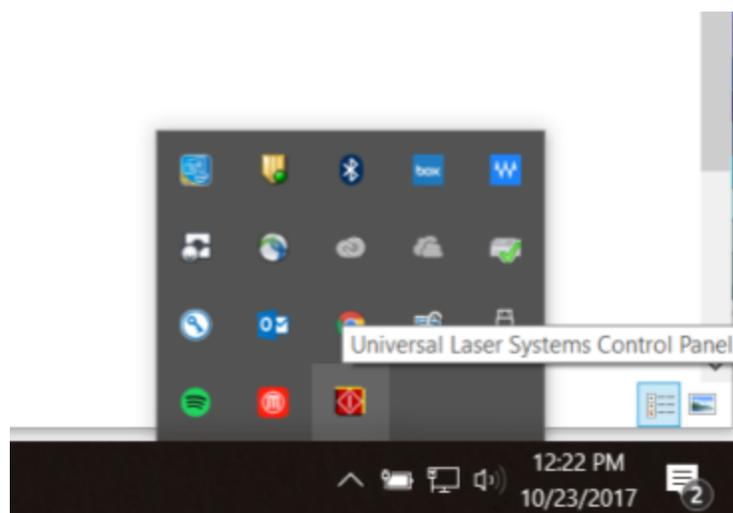

Figure 11 - Windows System Tray
2. Open the Universal Laser System Control Panel by opening your system tray and clicking on the icon (Figure 11).